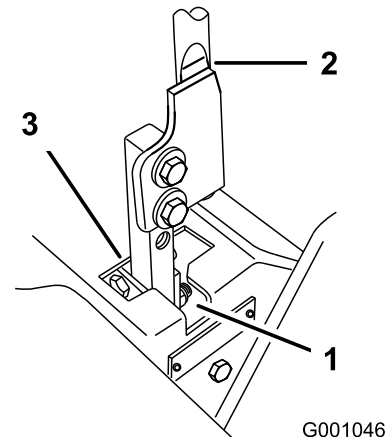

Figure 92
5. Move the lever to the neutral position but not locked (Figure 92).
6. Pull the lever back until the clevis pin (on arm below pivot shaft) contacts the end of the slot (just beginning to put pressure on the spring) as shown in Figure 92.
7. Check where the control lever is relative to the notch in the console (Figure 92).